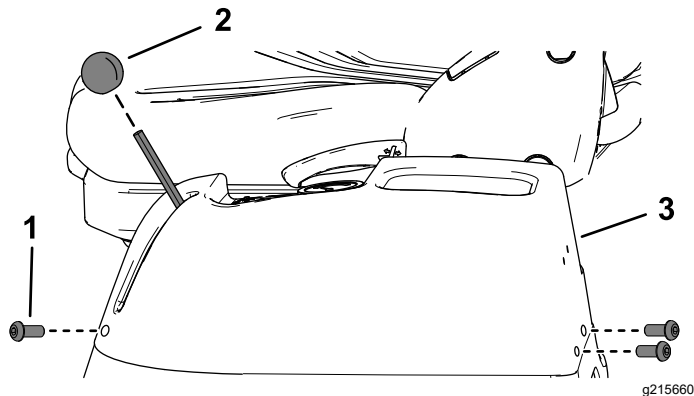

Figure 74
4. Remove the 3 socket-head screws from the left console (Figure 74).
5. Remove the throttle-lever knob (Figure 74).
6. Lift the left console up and set it aside (Figure 74).